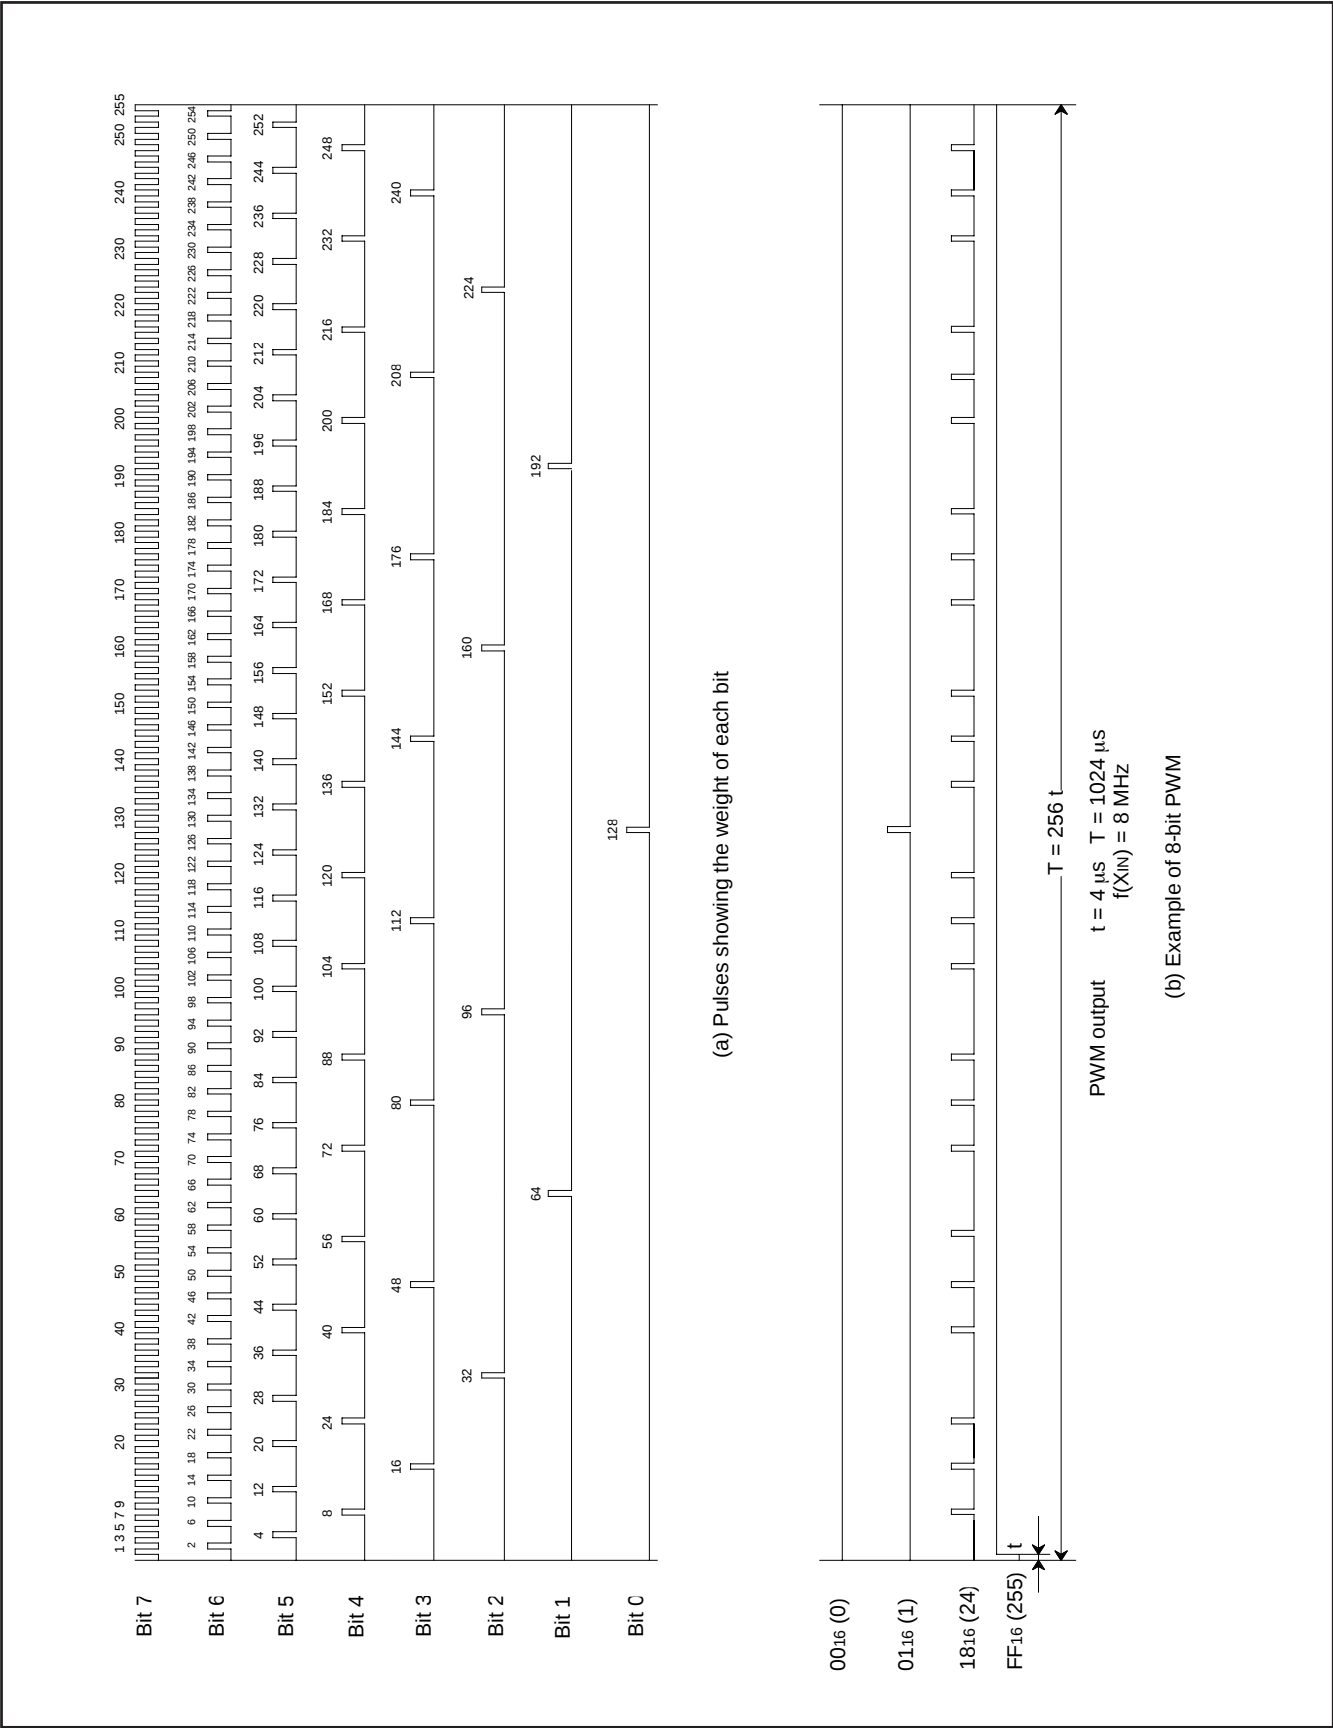

Fig. 8.7.2 PWM Timing
Figure 8.7.2 shows the 8-bit PWM timing. One cycle (T) is composed of  $256\ (2^8)$  segments. 8 kinds of pulses, relative to the weight of each bit (bits 0 to 7), are output inside the circuit during 1 cycle. Refer to Figure 8.7.2 (a). The 8-bit PWM outputs a waveform which is the logical sum (OR) of pulses corresponding to the contents of bits 0 to 7 of the 8-bit PWM register. Several examples are shown in Figure 8.7.2 (b). 256 kinds of output (HIGH area: 0/256 to 255/256) are selected by changing the contents of the PWM register. An entirely HIGH selection cannot be output, i.e. 256/256.